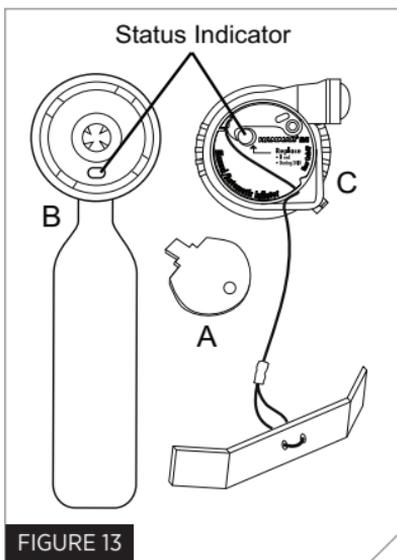

FIGURE 13
- Inflator removal key (A)
- Inflator body and cylinder (B). The “inflator body” refers to the black circular disc attached to the CO₂ cylinder. The inflator body has an indicator, which must show green for re-arming
- Inflator cap and pull-handle (C) (Fig. 13). The “inflator cap” refers to the yellow piece and its black locking ring together. The inflator cap has an indicator as well as an expiration date. For re-arming, the indicator must show green and the expiration date must be in the future.